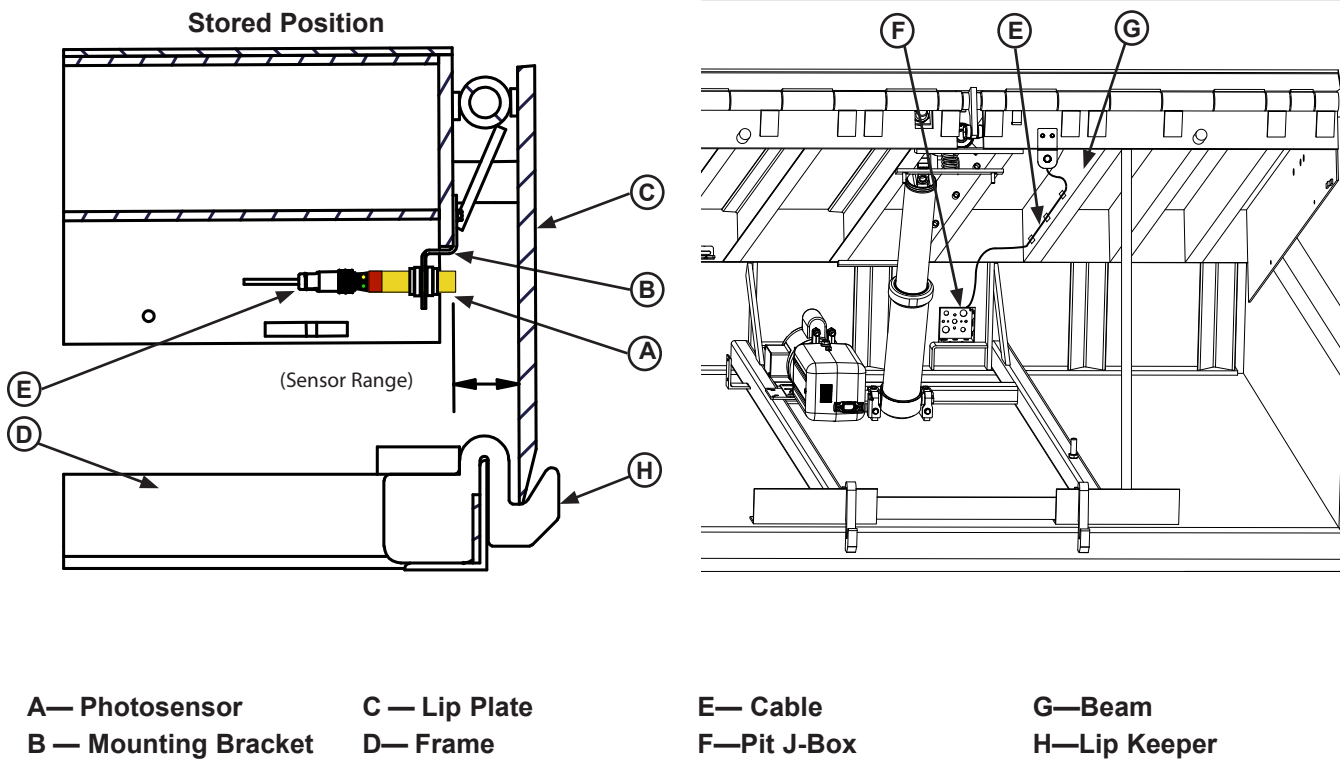

Figure 39
1. Make sure the dock leveler is raised and maintenance prop is positioned behind header plate. See **figure 39**.